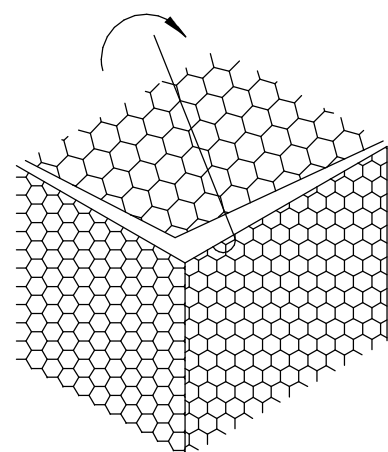

FIGURE 12
1. FOLD THE LID DOWN AND STRETCH IT INTO POSITION WITH A SUITABLE TOOL. LACE THE DOWN THE LID FRONT AND ENDS AS WELL AS THE TOP IF THE DIAPHRAGM AS DESCRIBED ABOVE. (FIGURE 12).